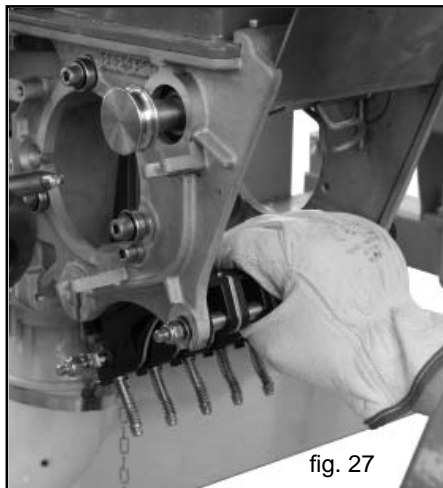
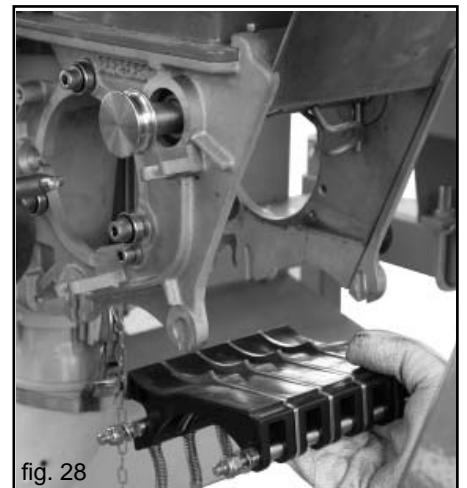

fig. 27
fig. 28
- 3) Remove the back part (Fig. 27) of the feeler pin unit, first, followed by the front part (Fig. 28). When the hatch is disassembled, it is also possible to remove the emptying hatch, by sliding it out from below.